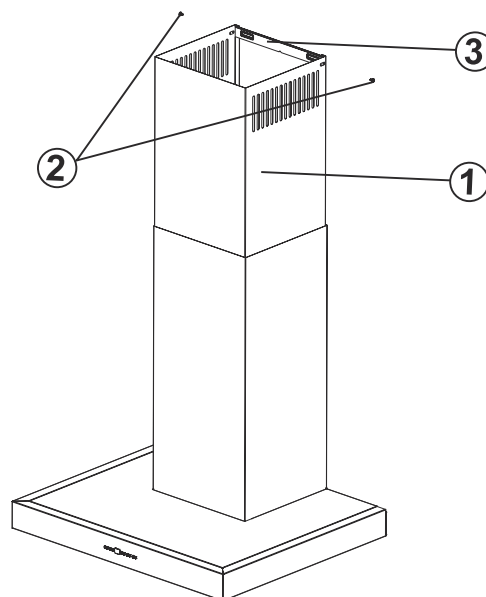

Fig. 13
The cooker hood is set in the midst, and then the flue connecting plate (3) is directly affixed to the wall, under the cover or mark the points E and D. (Fig. 13)
Drill points E and D with Ø6mm drill bit, and insert Ø6mm and plastic dowels. Insert the flue connection plate with 3,9X22 screws (Fig. 13).
Affix the inner flue to the flue connection plate by pulling it upwards (Fig. 13/2).